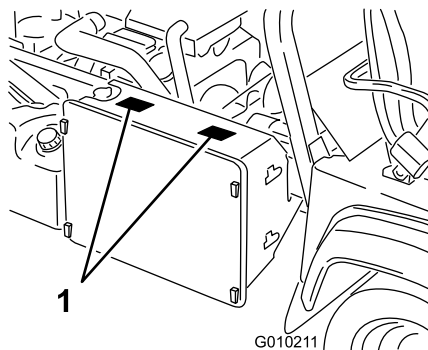

Figure 17
2. Affix the "No Step" decals to top of radiator, as shown in Figure 17.